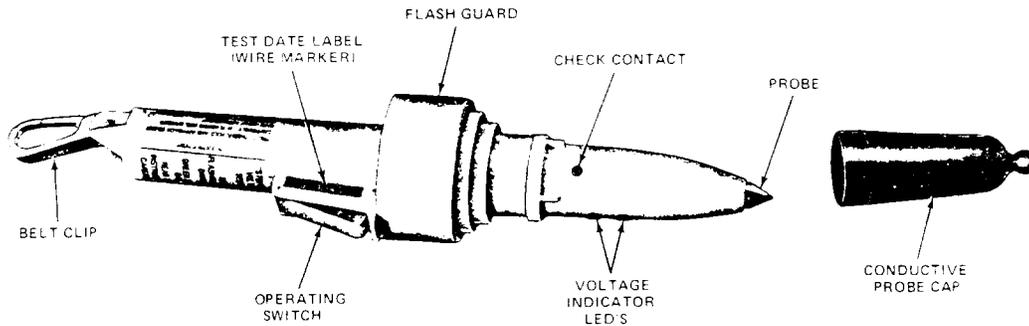
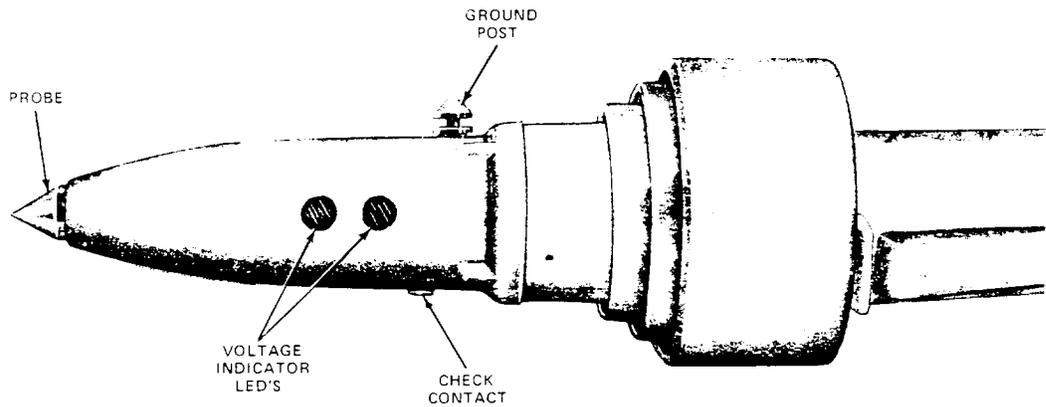

Fig. 1--188A Test Set
Fig. 3--Voltage Indicators
- 1.03 DANGER: Do not touch the energized object. The 188A test set (Fig. 1) is a high impedance voltage detector. It will identify voltages over 50 volts ac and 6 volts dc, regardless of current potential. The upper voltage limits that it is designed to test for are 20,000 volts 60 Hz ac and 2000 volts dc. At frequencies other than 60 Hz, the test set is less sensitive to lower frequencies and more sensitive to higher frequencies. The test set indicates when a potentially hazardous voltage is present by means of a flashing red indicator (LED). It does not indicate the actual voltage. When the test set indicates that a potentially hazardous voltage is present, the technician should notify the appropriate management center immediately (Part 10). The supervisor will determine if the indicated voltage is hazardous.
- 3.01 The 188A test set is a yellow plastic two-piece unit that weighs approximately 1 pound. The front housing contains the carbide probe tip and the light emitting diode (LED) voltage indicators (one green and one red), a ground post, and a check contact (Fig. 3). The rear housing unscrews from the front and contains a belt clip and operating switch. A colored wire marker is applied to the left gusset of the operating switch. The date that the test set was last tested with the 1188A test set is written on the wire marker (Fig. 1). The flashguard is an integral part of the rear housing. Required checks before use and instructions for use are printed on a label and affixed to the handle portion of the rear housing.
3.04 Conductive Probe Cap: The conductive probe cap (Fig. 1) provides protection from the sharp tip of the probe. When placed on the handle (clip end) of the 188A test set, it provides the attachment knob for the W1BU ground cord and a conductive surface for the hand of the user.